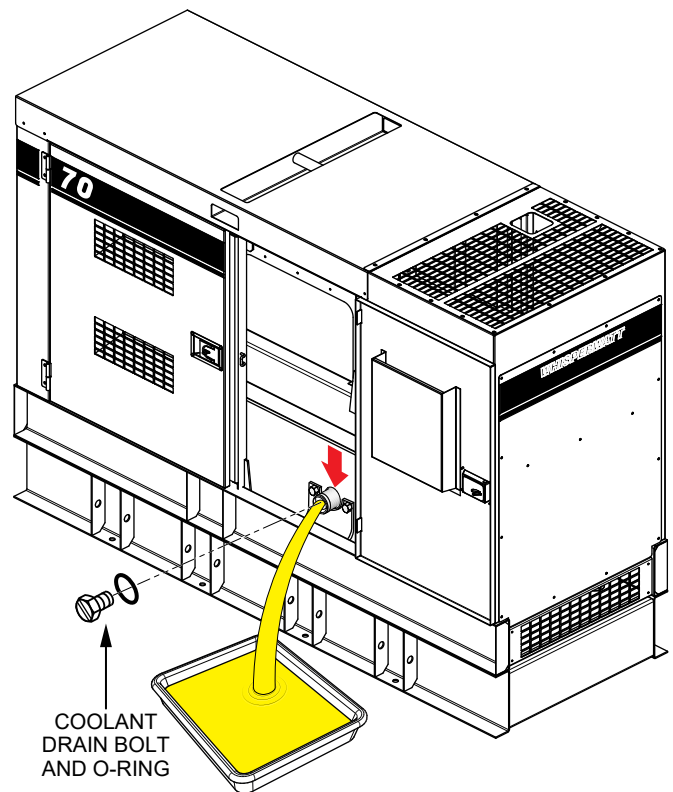

Figure 59. Draining The Engine Coolant
2. Open the cabinet door and remove the **coolant drain bolt** and **O-ring** (Figure 59), then allow the coolant to drain into a suitable container.